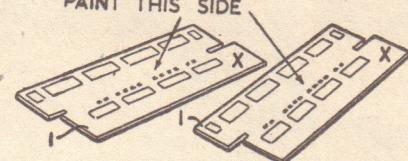

Fig. 1—Painting the sides
Take the two sides No. 1 and lay side by side, as shown in Fig. 1. The uppermost sides must now be painted cream or white. Notice particularly that when these sides are assembled, the painted parts will face each other, and the projections marked X in Fig. 1 will be at opposite ends of the model, and will cover the stairs.
Now fit the sides to the top floor (No. 2) so that the painted sides are facing each other. This will bring the extending pieces marked X in Fig. 1 at opposite ends of the floor. Now glue in place the lower floor (3) pieces 4 and 5, and the handle (17) and wheel (20) added afterwards. Paint and glue in position on the lower floor No. 3. Insert the wire uprights Nos. 21 and 22. The positions of the holes are shown clearly on pieces 3, 4, and 5.